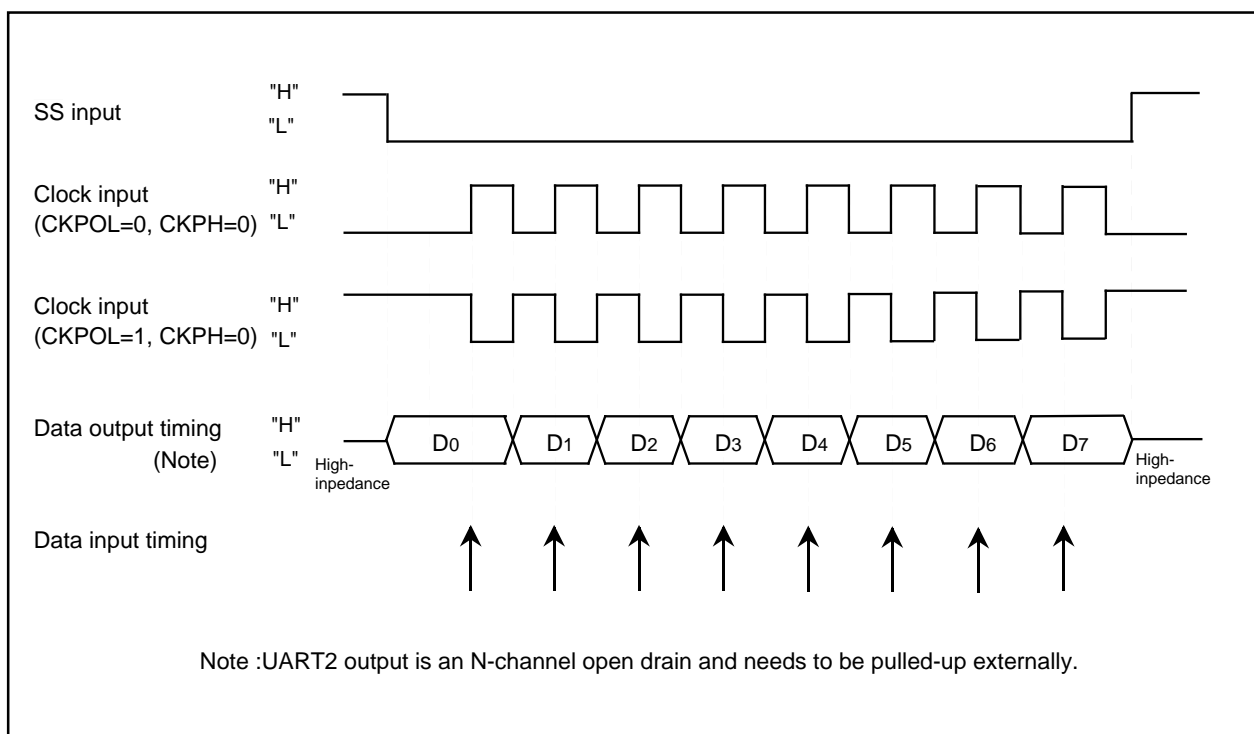

Figure 1.21.9. The transmission and reception timing (CKPH=1) in slave mode (external clock)
- With "1" for CKPH bit, when an  $\overline{SS}_i$  input pin is H level, output data is high impedance. When an  $\overline{SS}_i$  input pin is L level, the first data is output. After that, serial transmission is synchronized with the clock. Figure 1.21.9 shows the thing.